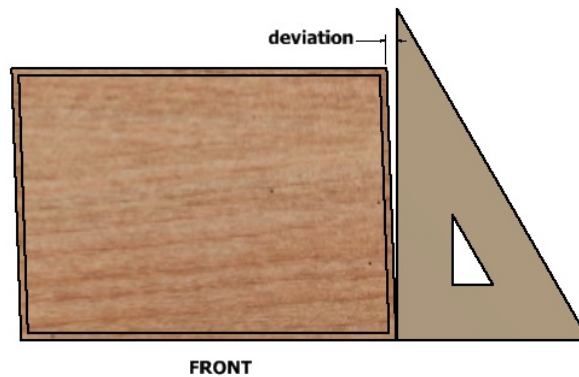

Figure 1
5.1.1 For front squareness, place the box on the flat surface such that the deviation from square is apparent with a line of sight to the front view as in Figure 1.